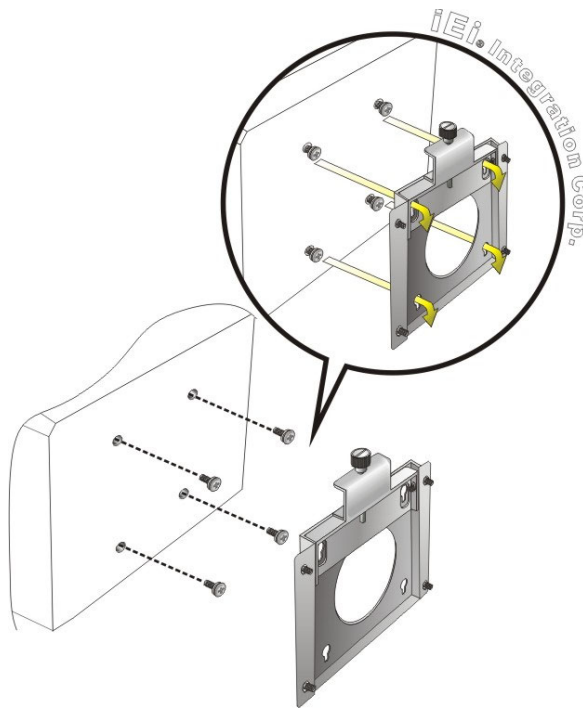

Figure 3-29: Chassis Support Screws
Step 6: Insert the four monitor mounting screws provided in the wall mount kit into the four screw holes on the rear panel of the medical panel PC and tighten until the screw shank is secured against the rear panel (**Figure 3-29**).
Step 8: Carefully insert the screws through the holes and gently pull the monitor downwards until the monitor rests securely in the slotted holes (**Figure 3-29**). Ensure that all four of the mounting screws fit snugly into their respective slotted holes.